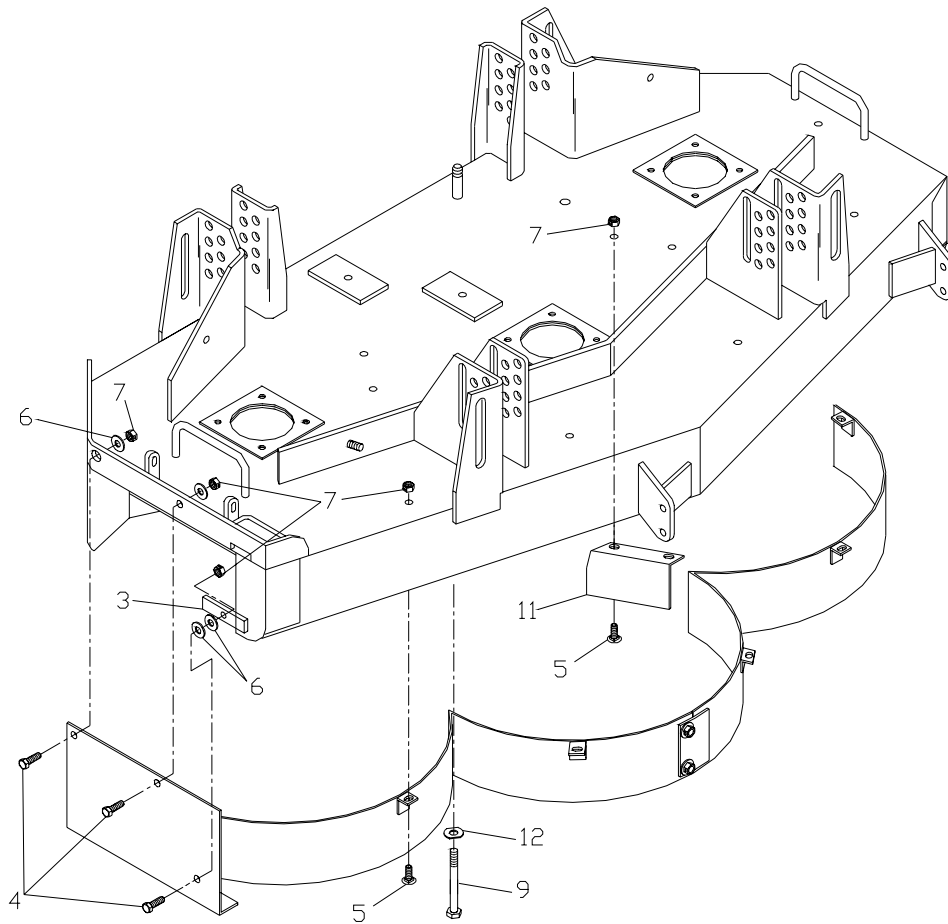

FIGURE 3
Step 3: With the discharge chute up and the two sections bolted together, place the baffle up under the deck and install the carriage bolts(item 5) thru the bottom. (see fig. 3)
Step 4: Using the two 5/16C x 4 1/2" bolt(item 9), flanged washer(item 12), and center lock nut, fasten the 'V' of the baffle to the deck.(see fig. 3) The flanged washer should be turned so the lip catches the front of the 'V' on the baffle.
Step 5: Using two of the 5/16C x 1" bolts(item 4) and washers(item 6) fasten the discharge cover plate to the deck. (see fig. 3)
Step 6: Install the clamp(item 3) as shown in fig. 3. Use a 5/16C x 1" bolt(item 4), two 5/16 washers(6), and a 5/16C nut(item 7). Make sure both washers(item 6) are between the clamp and the discharge cover and clamp overlaps onto the front corner of the deck as shown. (see fig. 3)
Step 7: Install the center deflectors(item 11) on both sides.(see fig. 3)
Step 8: Install the mulching blades(item 8). Rotate the blades by hand and check for clearance of all baffles and deflectors.